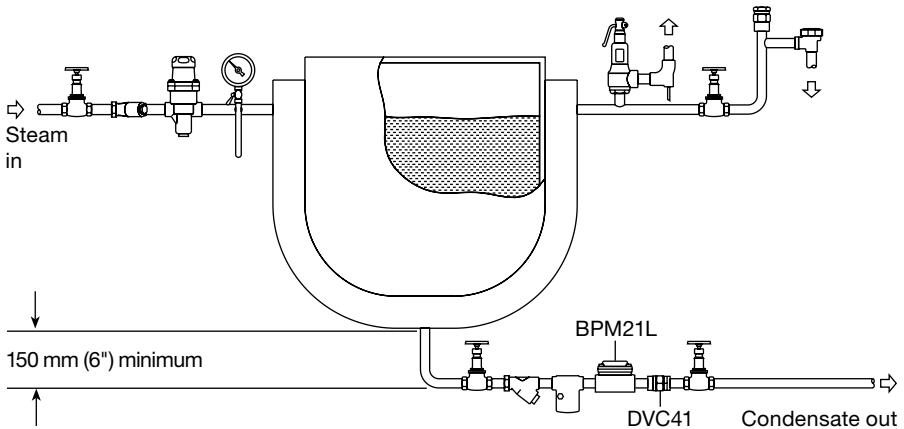

Fig. 2 Small process equipment
- 3.4** The trap is designed for installation in any position, horizontal or vertical, preferably with a drop leg immediately preceding the trap - typically 150 mm (6") see Figure 2. **Caution:** If no drop leg is allowed then it may be possible (under low load conditions) for steam to flow over the condensate in the bottom of the pipe and reach the trap.
- 3.5** Unless the BPM21LCV is used, always fit a non-return (check) valve downstream of any steam traps which discharge into condensate return lines where backpressure is experienced. This is most commonly caused by a rising condensate line. The check valve will prevent the steam space flooding when the inlet pressure is reduced or the steam is shut off. Use a suitable valve such as the Spirax Sarco DVC41, see Figure 2.